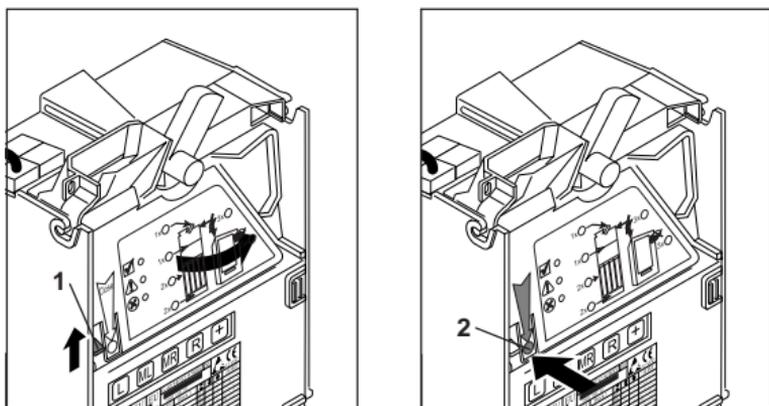

Fig. 10: Opening and closing the coin validator flight deck
- 2 Press lever 1 upwards and open the coin validator (Fig. 10).
- 4 Press "Close" arrow 2 so that the metal spring engages behind the lever 1 in order to close the coin validator again (Fig. 10).